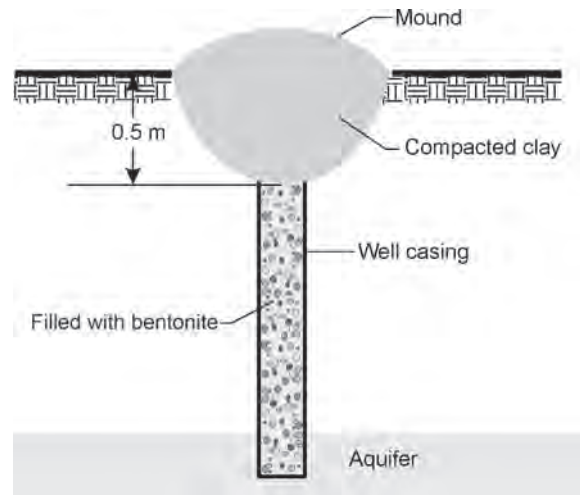

Figure 1. Reclaimed groundwater monitoring well
4. *Surface completion* – From a depth of 0.5 metres to the ground surface, the reclaimed well must be backfilled with material appropriate for the intended use of the land (Figure 1).